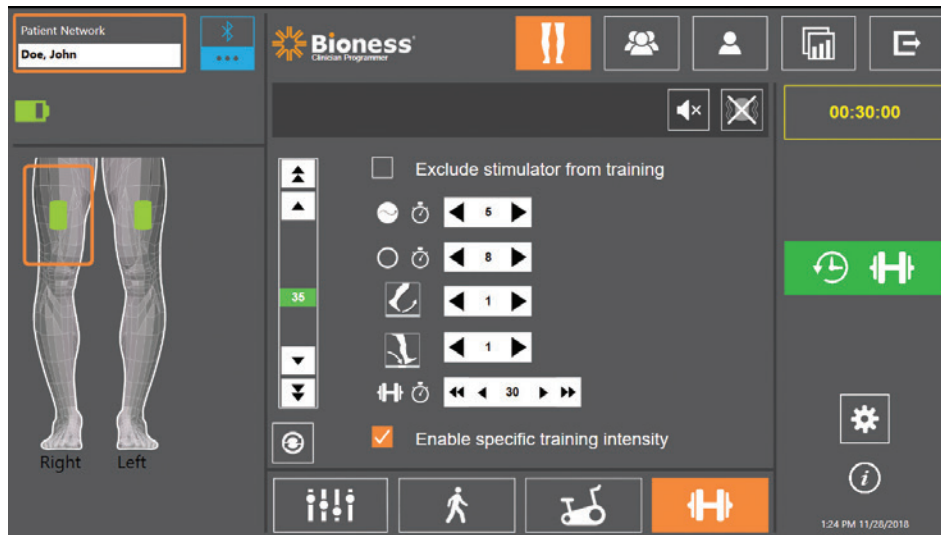

Figure 9-9: Programming Stimulation, Training Settings Screen
2. The Training Settings Screen will open. See Figure 9-9.